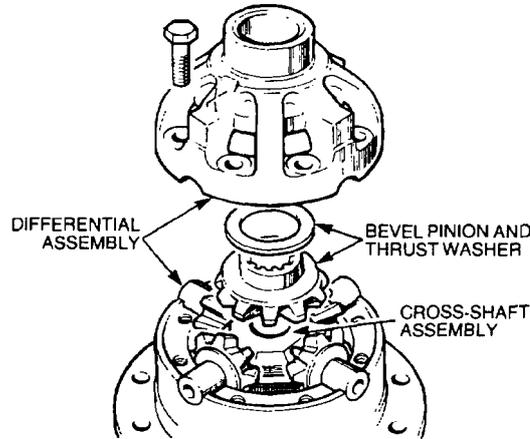

Figure 211 Differential Disassembly
- d. Remove the bolts securing the two halves together (Figure 211) and remove the upper half.
- e. Lift off the bevel pinion and thrust washer and discard the thrust washer (Figure 211).